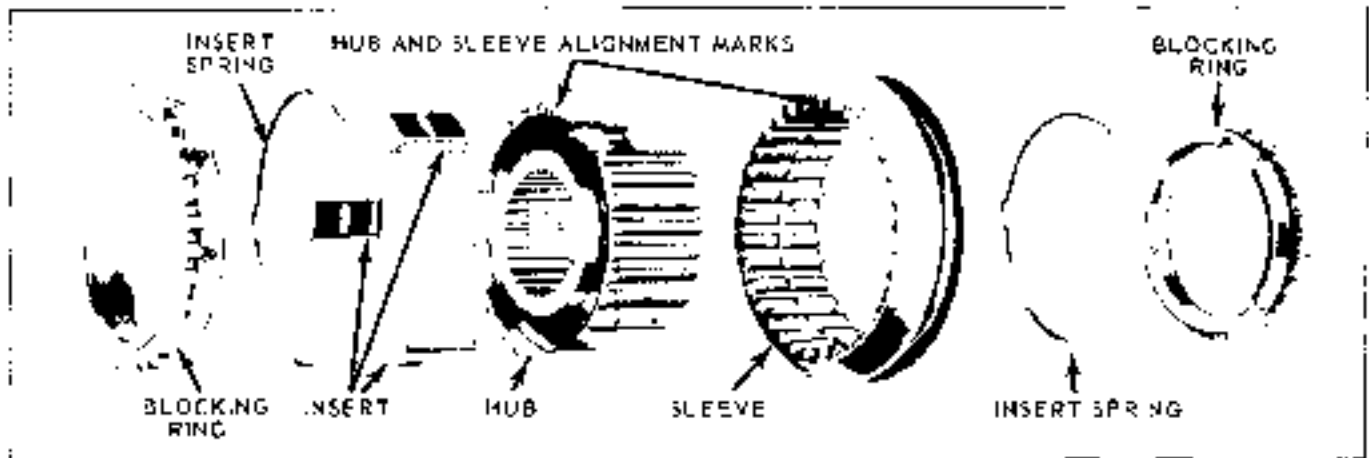

Fig. 7A-14 Exploded View of Second and Third Synchronizer
6. Install one insert spring (Fig. 7A-14) into the groove of the second and third speed synchronizer hub, making sure that all three insert slots are fully covered (Fig. 7A-18).